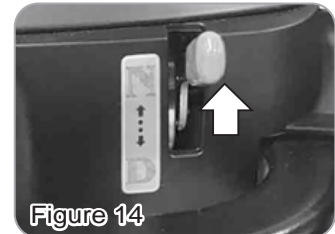

Figure 14
- When lever is Neutral (N) position, the scooter can be moved manually without power (Figure 14)